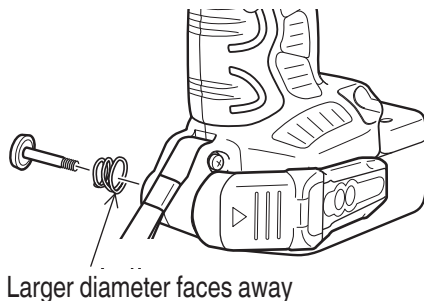

Fig. 12
- (c) Install the hook and spring on the other side and securely fasten with screw. (**Fig. 12**)
Pay attention to the spring orientation. Install the spring with larger diameter away from you. (**Fig. 12**)